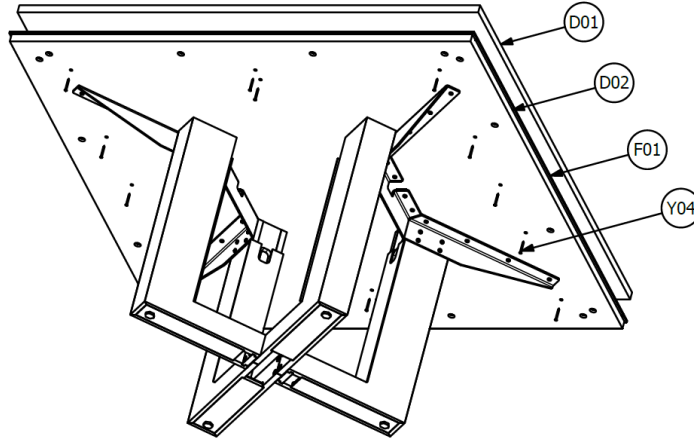

FIGURE 06: 1-PIECE WOOD TOP ASSEMBLY
1. Place Top (D01) on Subtop (D02). See Figure 06.
2. If equipped with Edge Trim (F01), position the Top so that an equal amount (1/4") of the Edge Trim shows. If not equipped with an Edge Trim, center Top on Subtop. See Figure 06.
3. Once Top is positioned, use Fastener (Y04) to secure them. See Figure 06.